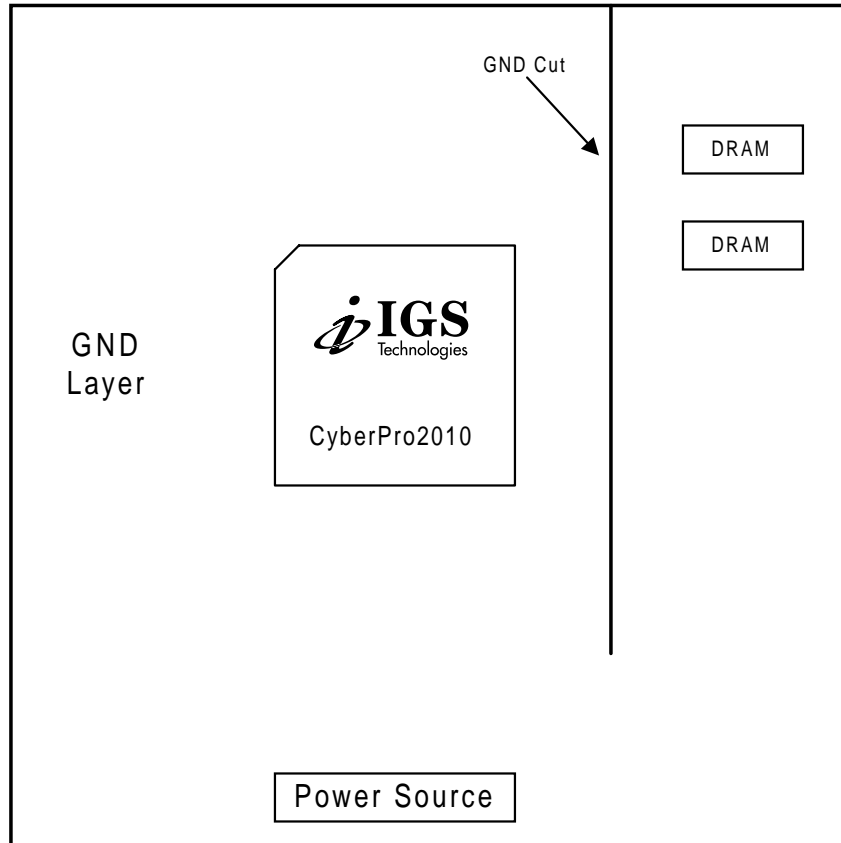

Figure 1-8: DRAM Isolation
In order to reduce noise in the DRAM area, the DRAM area should be isolated from the CyberPro2010 chip by using a ground cut, as indicated in Figure 1-8.
3. DRAM interference must be prevented by using a ground cut between the DRAM and the crystal, as indicated in Figure 1-8.